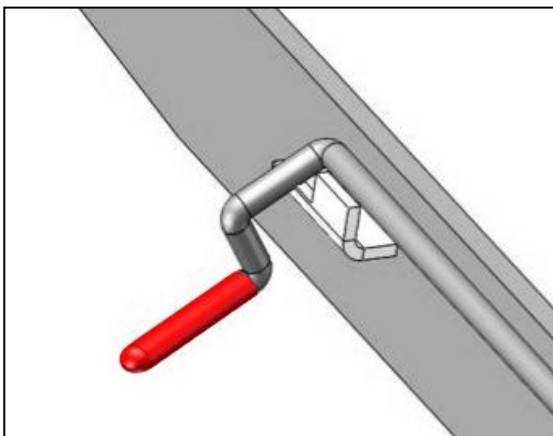
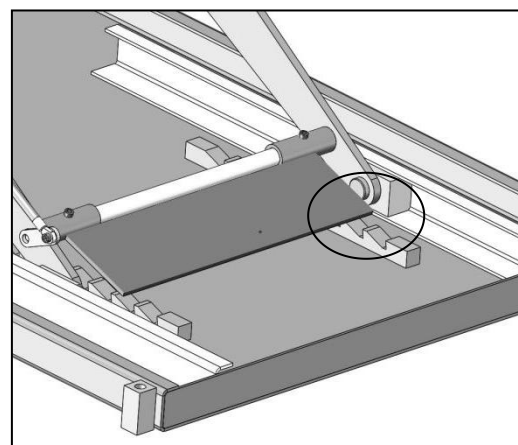

Fig.26
Fig.27
4. To lower the lift: Rise the lift few seconds. Rotate the safety lock handle downward (**see Fig.26**) to release the safety device. After the safety device is released (**see Fig.27**), press **DOWN** button to lower the lift.